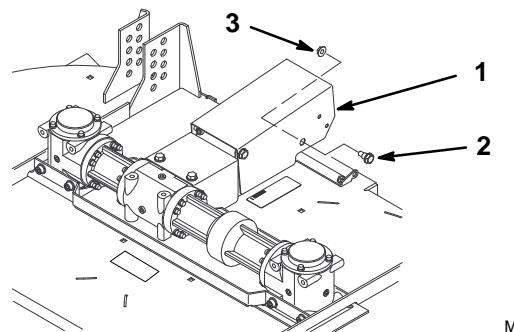

Figure 10
10. Remove 5/16–18 x 7/8" (11 mm) shoulder bolt and 5/16" flange nut holding PTO cover down (Fig. 10).